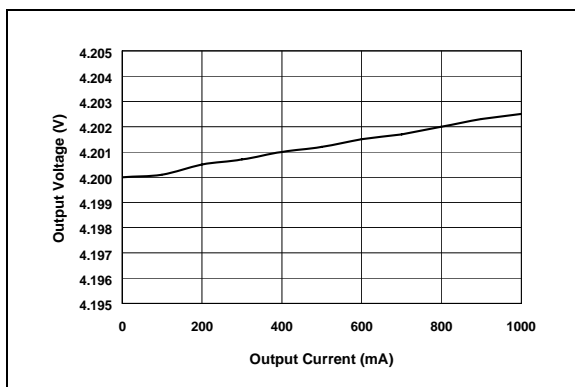

**FIGURE 1-1:** MCP73827 Test Circuit.
Unless otherwise specified, all limits apply for $V_{IN} = [V_{REG}(typ)+1V]$ , $R_{SENSE} = 500\text{ m}\Omega$ , $T_A = -20^\circ\text{C}$ to $+85^\circ\text{C}$ . Typical values are at $+25^\circ\text{C}$ . Refer to Figure 1-1 for test circuit.
**Note:** Unless otherwise indicated,  $I_{OUT} = 10\text{ mA}$ , Constant Voltage Mode,  $T_A = 25^\circ\text{C}$ . Refer to Figure 1-1 for test circuit.